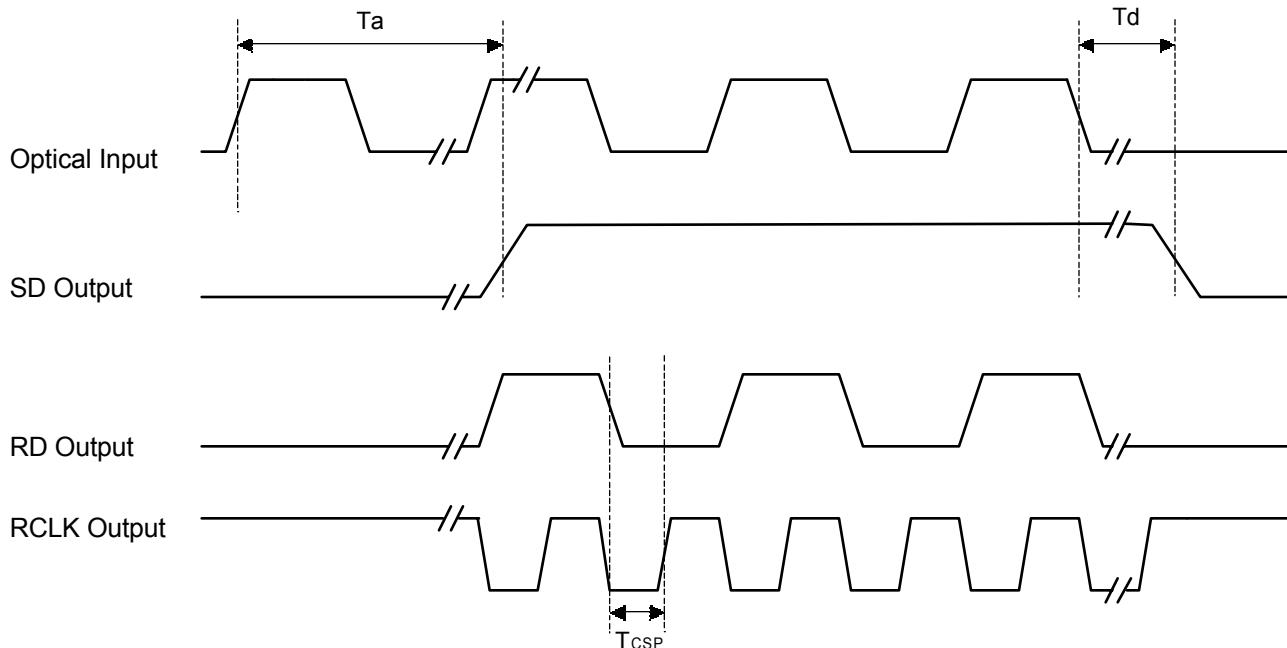

Figure 6. Timing Chart
5. Time difference between RD transition and rising edge of RCLK. Refer to Figure 6.